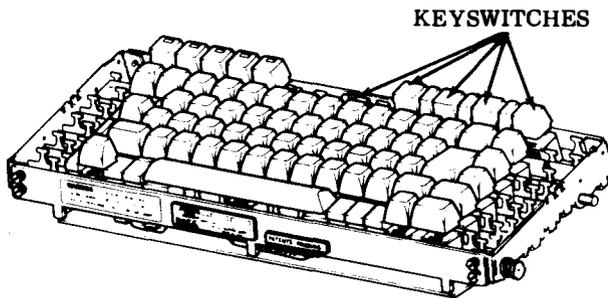

Fig. 19—Keyswitch Identification
- (b) Remove **INTERLOCK, PRINTER TEST, PARITY, DUPLEX** and **CPS** keyswitches (Fig. 19). (Refer to **Keyswitches**, Page 3-5).